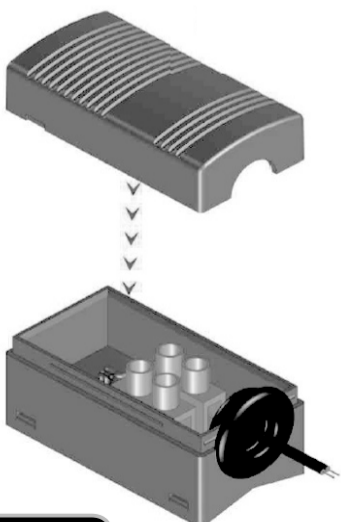

Figure 5
3) Close the cover. (See Figure 5)